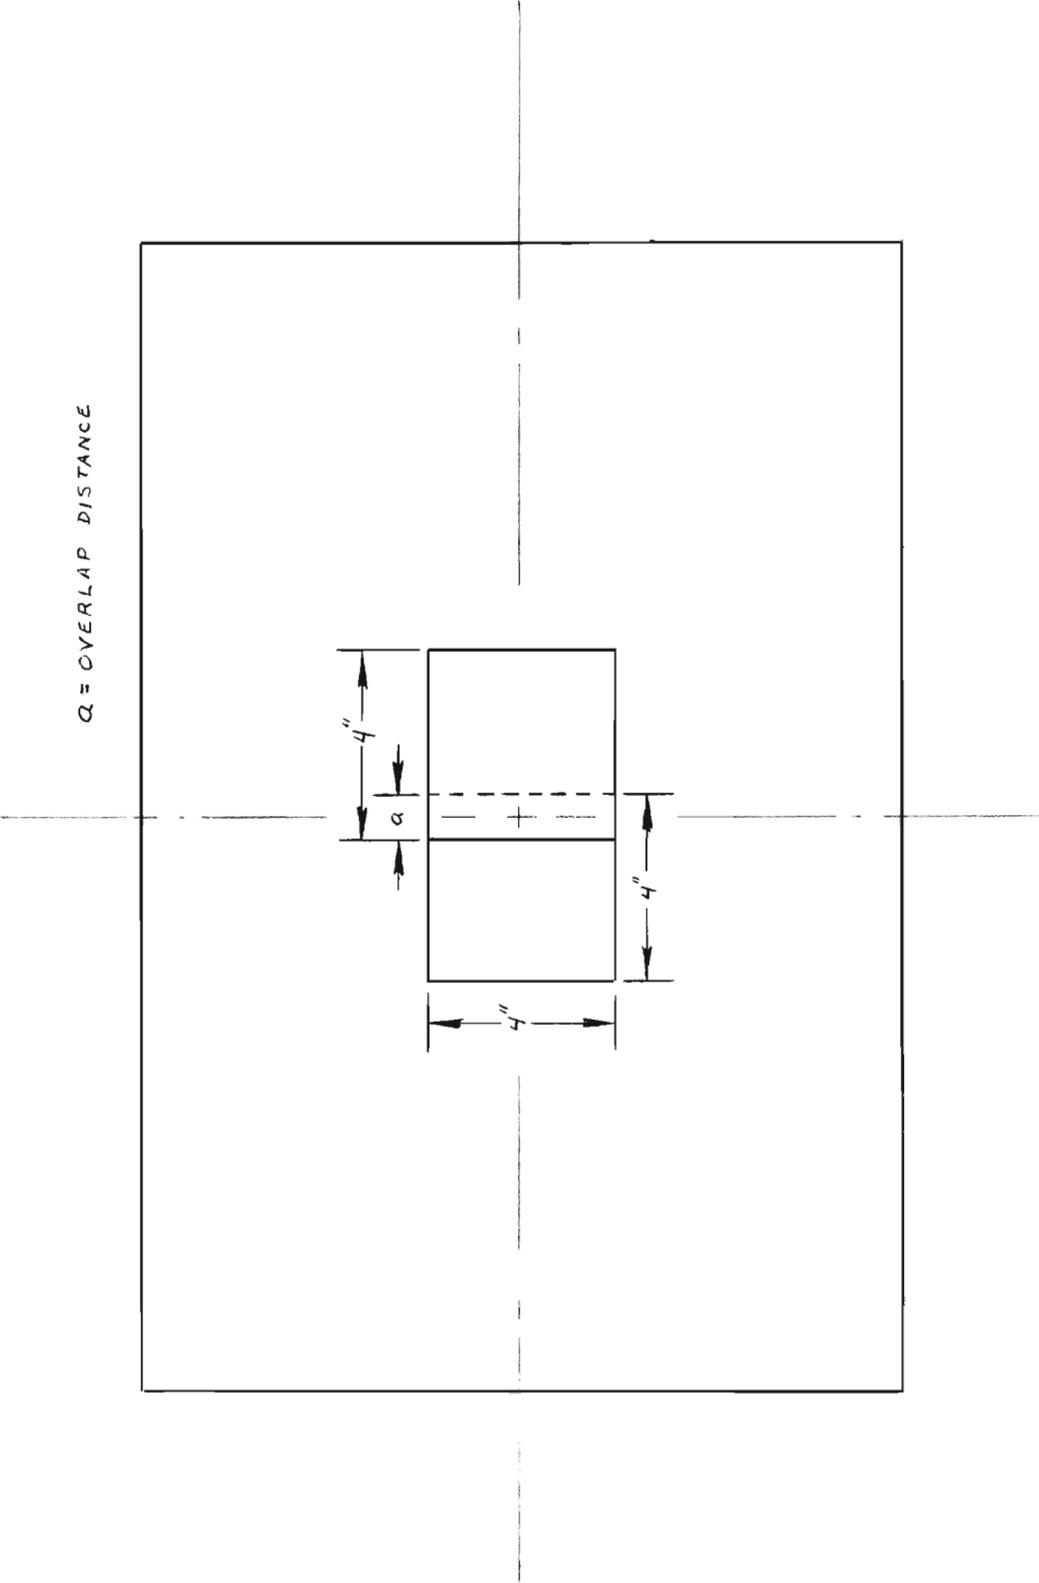

Figure 2
d) the most common form of damage that cargo liners experience is rips or tears. In some instances, these tears may be of considerable length, rendering a single patch inadequate to fully cover the damage. When this type of damage is encountered, the only feasible method of repair is to "shingle" several patches over each other to accommodate the damage length. If a patch is intended for this type of use, it must exhibit the ability to remain adhered to itself during the adhesion test. One method of performing this test would be to take two 4" X 4" patches and overlap them in the center of the cargo liner; the width of overlap would be representative of the in-service overlap, as specified by the manufacturer (figure 2).